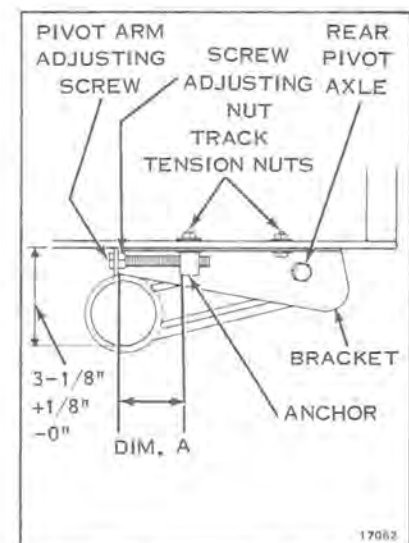

Figure 11-4
Track tension is correct if the distance from the bottom of the pivot arm bearing bore to the bottom of the chassis is  $3-1/8'' + 1/8'' - 0''$ . See Figure 11-4.
- Turn pivot arm adjusting screws to obtain the correct track tension as shown in Figure 11-4. Measure distance from bracket to anchor on each side, Figure 11-4, dimension A. If measurements are not equal, loosen adjustment on the side with longest dimension until measurement is equal within  $1/32''$ . This is done by turning the pivot arm adjusting screw counterclockwise. Tighten all retaining nuts.
- b. Loosen track tension nuts. See Figure 11-4.